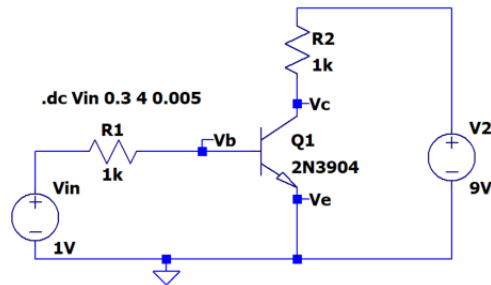

Figure A-2.
- Using *LTspice*, set up the circuit shown in Figure A-2. Note that there are two voltage sources. V_{in} controls the base voltage and V_2 provides voltage at the collector so that current can flow when the switch is closed. For the transistor use the part npn. This is a generic NPN transistor. Right click on the transistor, *Pick New Transistor*, and choose the 2N3904.
- The transistor switch will not work exactly like an ideal, simple switch. However, it can be a good approximation to such a switch and, more importantly, it will switch states based on an applied voltage rather than a mechanical act (like turning a switch on and off). Identify on the plot where the transistor is in the cutoff region (OFF) and in the saturation region (ON).
- Now we will consider this switch in a configuration that switches the voltage across a load. In Figure A-2, R2 might be the load and you have already showed that you can switch the current in R2 on and off. But sometimes loads must have one leg tied to ground and in that case the circuit in A-2 won't work. You will now look at a transistor switch for such cases, now R3 is the load and it will be added to the circuit.